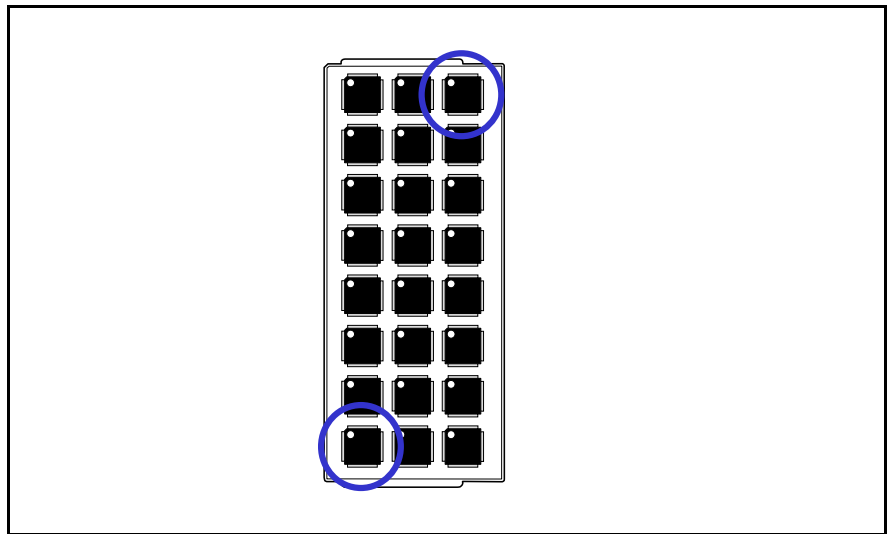

Figure 7-10. Matrix tray with the lower left and upper right component positions marked.
- A matrix tray of the type you want to create. Preferably with components in lower left and upper right positions, see Figure 7-10.